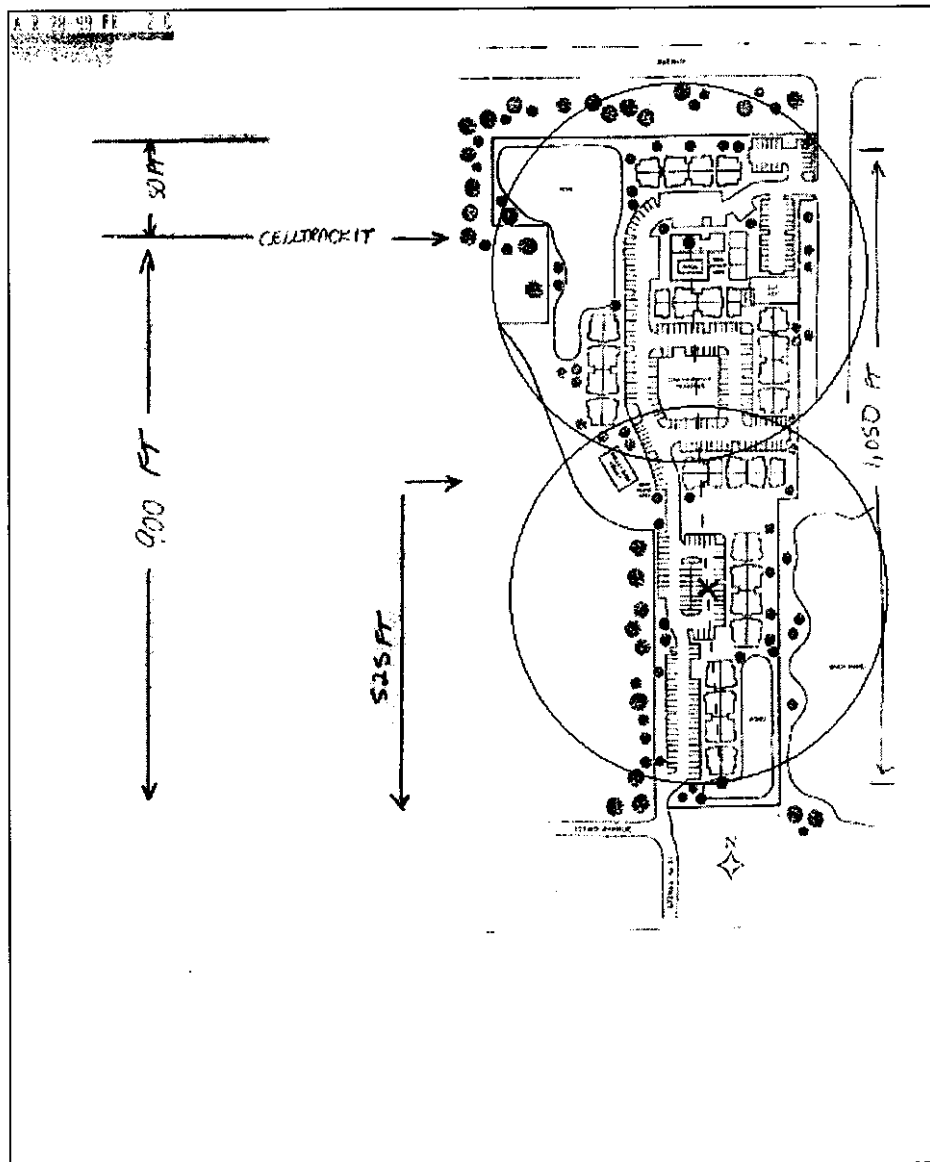

Figure 7. Draw Circles Designating RF Range
- Draw a circle with each "X" as center point (see Figure 7). The radius should equal the transponder range as stated in the range chart. The repeater at center point will service all the apartment buildings within the circle. Repeat the process for all the furthestmost points until all the apartment buildings have been designated a repeater.
- As seen in Figure 7, the site requires approximately two repeater units to effectively cover the area. Since the basic CellTrackIT must include a repeater to function correctly, the repeater was placed where it would cover the remaining transponders around the clubhouse.
The cost of the CellTrackIT system can be determined once the placement of the repeaters is completed on the site map. Our sample in Figure 7 shows that two repeaters were needed for the entire system to function properly. Figuring total cost per point is a matter of identifying the various costs associated with a CellTrackIT System installation.
Electrical Costs. The cost of installing power conduit in attics or along walls per repeater has to be factored into the cost per point determination. In Figure 7 on page _____, the two separate repeaters need a power source of 110 - 125VAC. In both cases, the installation of the AC power must comply with standard building codes. Normally, a licensed electrician will be required to install the electrical wiring. If the CellTrackIT PC is being located in a secluded place then a power source will be needed for both the PC and the node receiver.